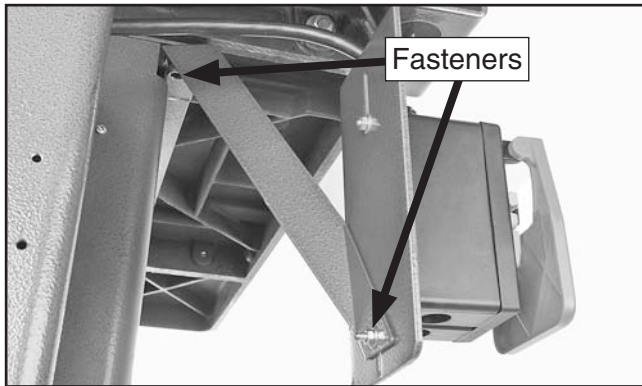

Figure 17. Switch bracket installed.
11. Mount the switch brace, as shown in **Figure 17**, using the pre-installed table mounting fasteners on the top end and the switch mounting fasteners on the bottom end.